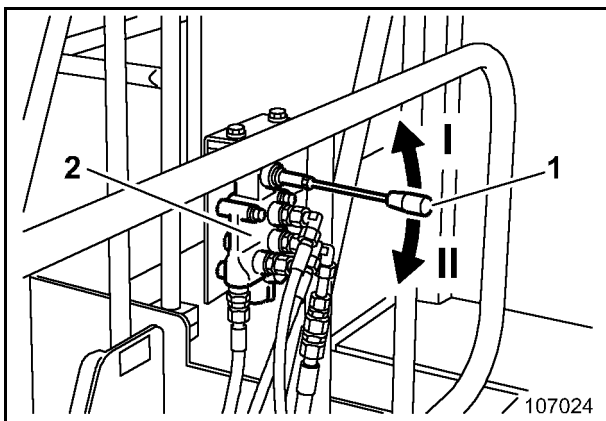

Fig. 2-14:
- Pull lever (1, Fig. 2-14:) on control valve (2) upwards to position "I".
- Push lever (1, Fig. 2-14:) on control valve (2) downwards to position "II".